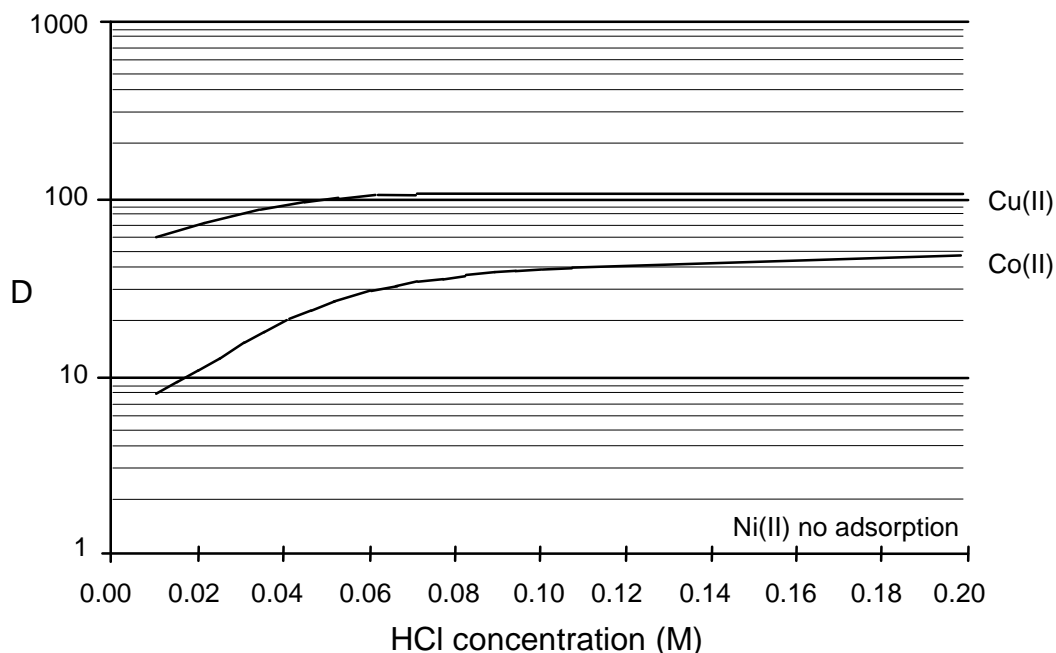

Figure 1. Distribution coefficients, D of metal ions between anion exchange resin and 96 % methanol at varying HCl concentrations. (note D value for Zn > 1000)
2.3 The wash solution is evaporated to dryness and the residue resuspended in a small amount of 0.2 M HCl 96 % methanol and loaded onto an anion exchange column. Use the distribution coefficients D given in Figures 1 and 2 and rank the best solvent systems (from given alternatives) for eluting Cu-64 and Co-55.
2.3 Use the distribution coefficients D given in Figures 1 and 2 and rank the following solvent systems for isolating Cu-64 and Co-55 by writing the numbers 1 to 4 in the boxes (1 is best).